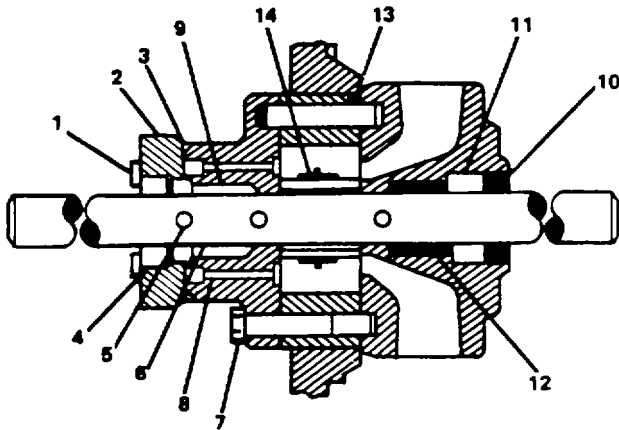

Figure 2-28. Disassemble Local Hand Pump.
a. Remove four hex head screws (1, Figure 2-28) holding end cap (2) to pump.
b. Remove and discard gasket (3) from end cap.
c. Remove rear shaft seal (4), collar retaining pin (5) and remove collar (6).
d. Remove hex head screws (7) holding pump head to body and separate the two.
a. Use pliers to remove snap ring (8) and remove rear bearing (9).
b. Remove front shaft seal (10).
c. Use pliers to remove snap ring (11) and remove front bearing (12).
d. Remove preformed packing (13) and rotor (14).
a. Install rotor (14, Figure 2-28) and preformed packing (13).
b. Install front bearing (12) and replace snap ring (11).
c. Install front shaft seal (10).
d. Install rear bearing (9) and replace snap ring (8).
a. Assemble pump head to pump body and secure with hex head screws (7).
b. Install collar (6), collar retaining pin (5) and rear shaft seal (4).
c. Install new gasket (3), end cap (2) and secure with four hex head screws (1).